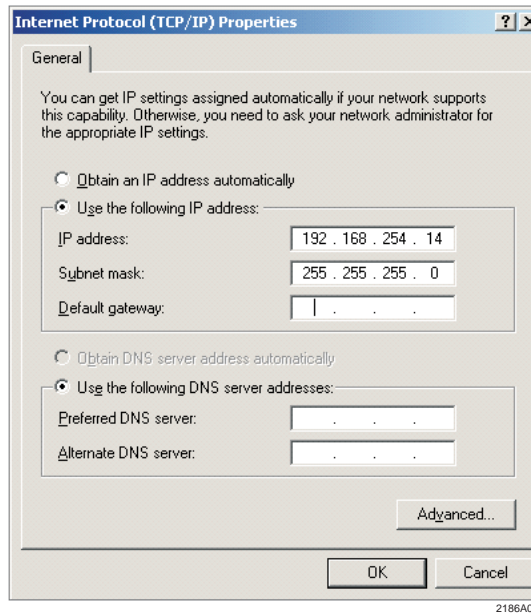

Figure 5-1. Setting Internet Protocol Properties
1. Select **Start > Settings > Network and Dial up Connections > Local Area Connections**. Then right-click and select **Properties**. See Figure 5-1.